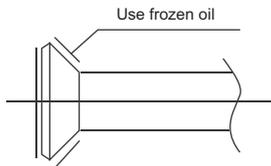

Fig. 11-1
- ① Bend the tubing in proper way. Don,t harm them.
- ② Daub the surfaces of the flare pipe and the joint nuts with frozen oil, and wrench it for 3~4rounds with hands before fasten the flare nuts. (Refer to Fig.11-1)
- ③ Be sure to use two wrenches simultaneously when you connect or disconnect the pipes.